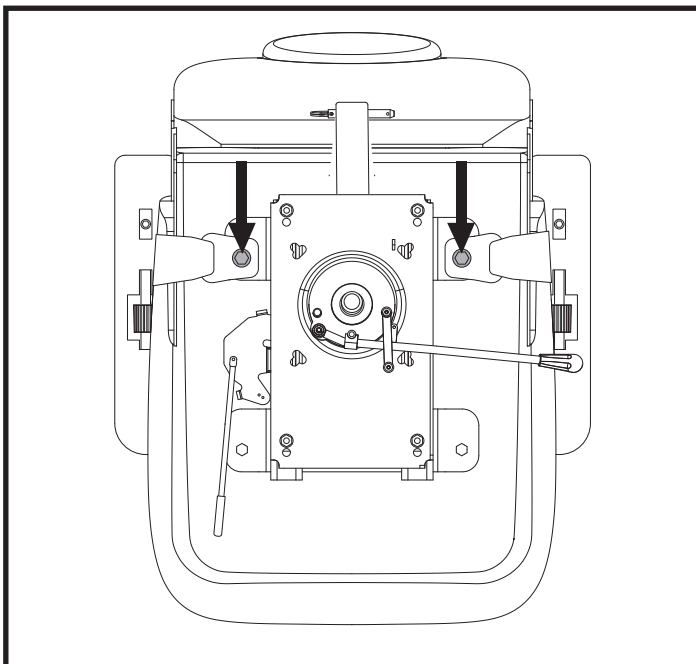

Figure 17. Positioning Belt Bolts
2. Place the seat upside down so that you can see the bottom of the seat base. See figure 17.